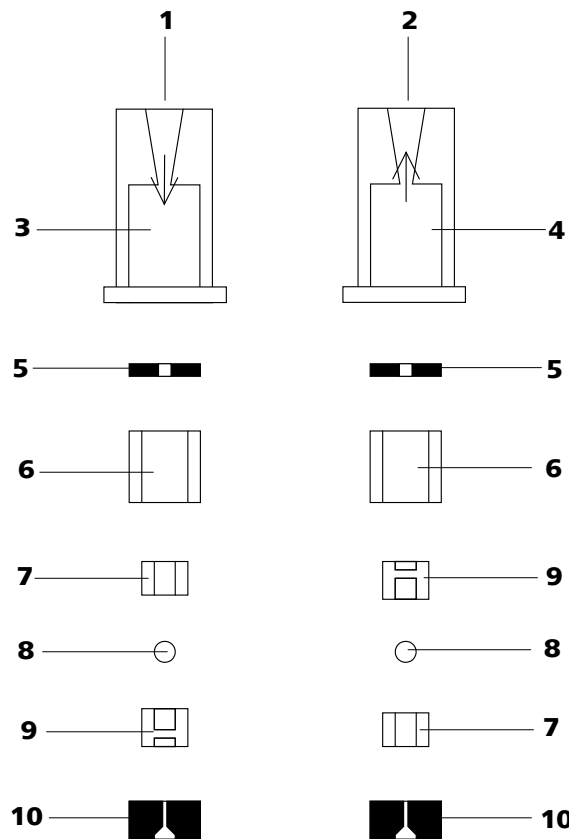

Figure 48 Components of the inlet valve and outlet valve
- The inlet valve and the outlet valve consist of the same, just differently arranged components (see Figure 48, page 89).
Reassemble valve components *according to figure 48, page 89*.
- Lay the other valve components above another in the correct sequence (*see Figure 48, page 89*).
If this is not the case, the valve has to be dismantled again and be reassembled correctly (see *Figure 48, page 89*).